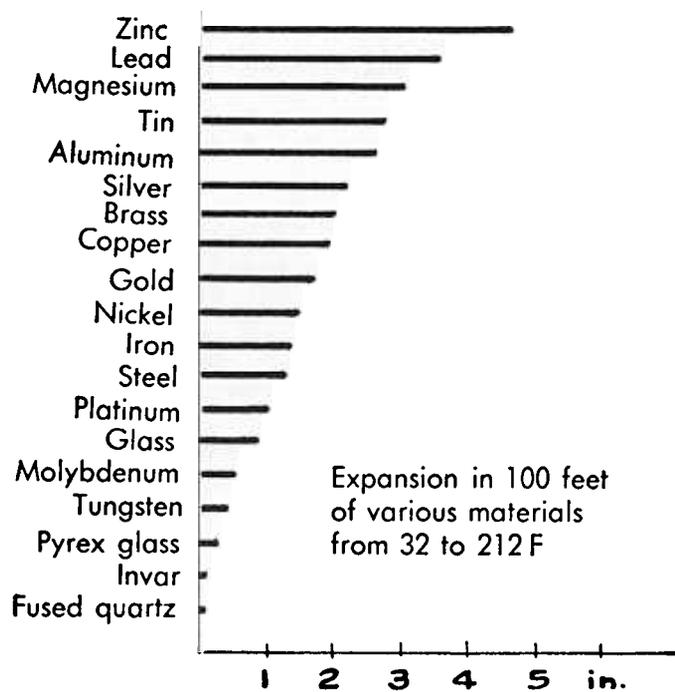

Fig. 3-11. Linear thermal expansion (in in.) of 19 materials when heated from 32 F to 212 F.
*Thermal expansion* is the increase in dimensions of a body due to a change in its temperature. See Fig. 3-11 for thermal expansion of selected materials.